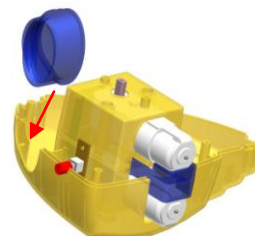

Fig. 4
3. Insert the face (7) to the body part. (Fig. 4)